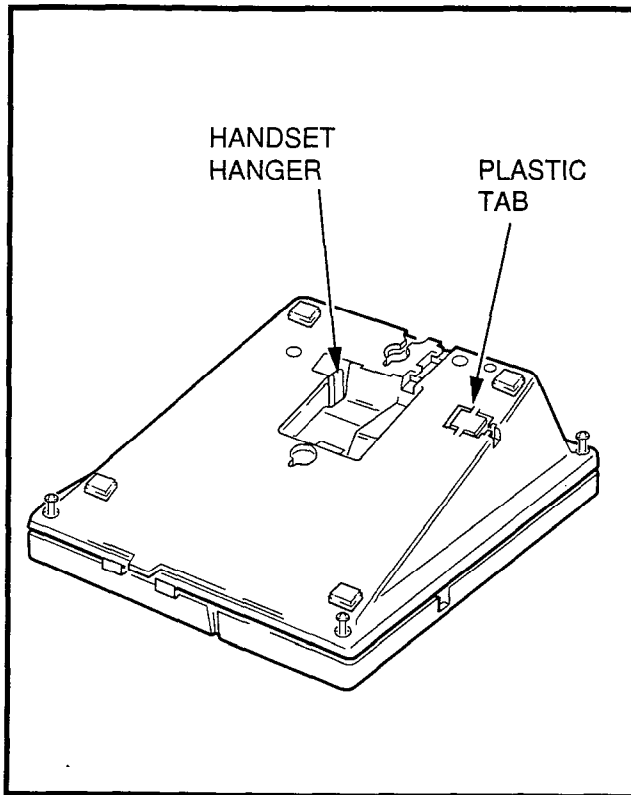

FIGURE 4-24—REMOVAL OF ELECTRONIC TELEPHONE BASE
5.12 Loosen the four captive screws securing the electronic telephone's base, and remove the base (Figure 4-24).
5.32 Loosen the four captive screws securing the electronic telephone's base, and remove the base (Figure 4-24).
5.42 Loosen the four captive screws securing the electronic telephone's mounting base, and remove the base as shown in Figure 4-24.